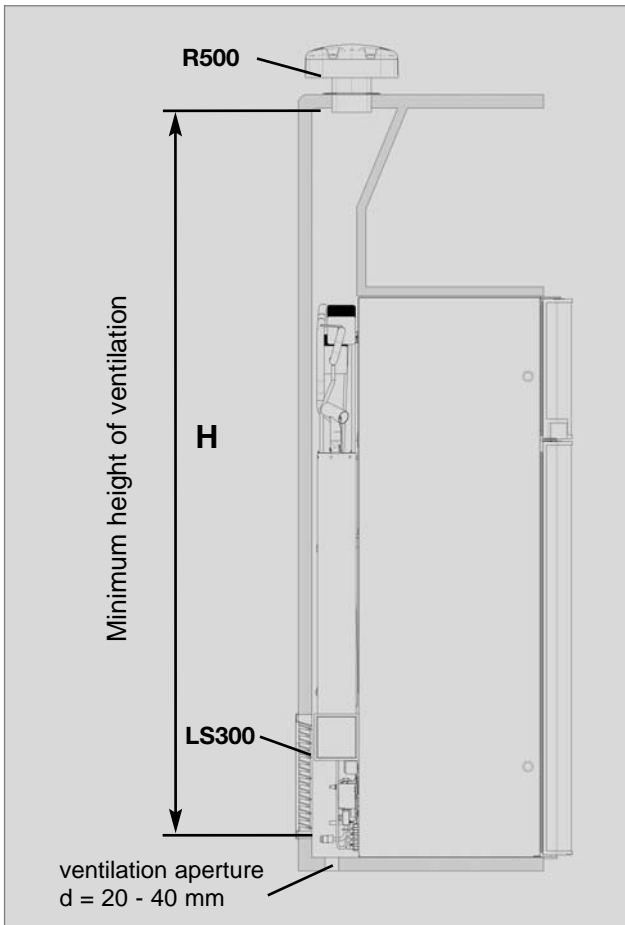

Fig. 11
Ventilation is provided for the unit by means of two apertures in the caravan wall. Fresh air enters at the bottom, extracts the heat and exits through the upper vent grille (chimney effect). **The upper ventilation grille should be positioned as high as possible above the condenser (A). Install the lower ventilation grille at floor level of the vehicle**, allowing unburnt gas (heavier than air) to escape directly into the open air. Should this arrangement prove impossible, a ventilation aperture must be introduced by the manufacturer of the vehicle into the recess floor in order to avoid the accumulation of unburnt gas on the floor (Fig. 11,12).
To install the ventilation grilles, cut two rectangles in the outer wall of the vehicle (for position of the cuts, see Fig. 11,12).).
To install the ventilation grille, cut a rectangle **width 451 mm x height 156 mm**, in the outer wall of the vehicle (for position of the cuts, see Fig. 11,12).